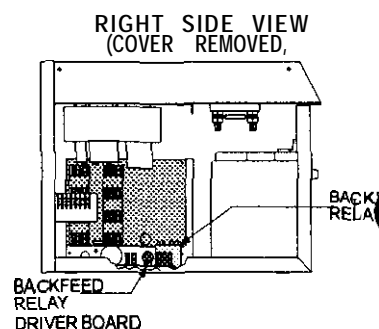

Figure 19
- Find the **backfeed** relay behind the batteries on the bottom on the left side of the unit. (See Figure 19.)